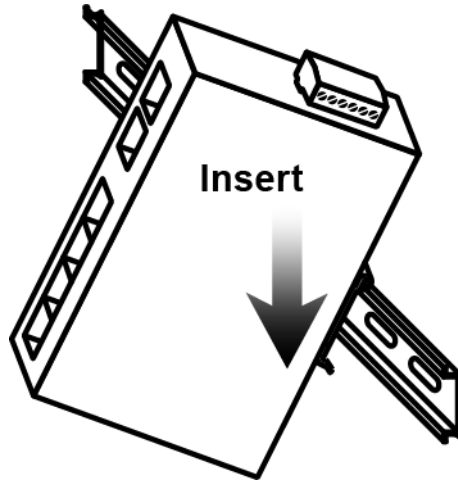

Figure 3.2: Insert the Injector on the DIN-Rail
Step 3. After the DIN-Rail bracket is installed on the rear side of the injector, insert the top of the DIN-Rail on to the track as shown below in Figure 3.2.